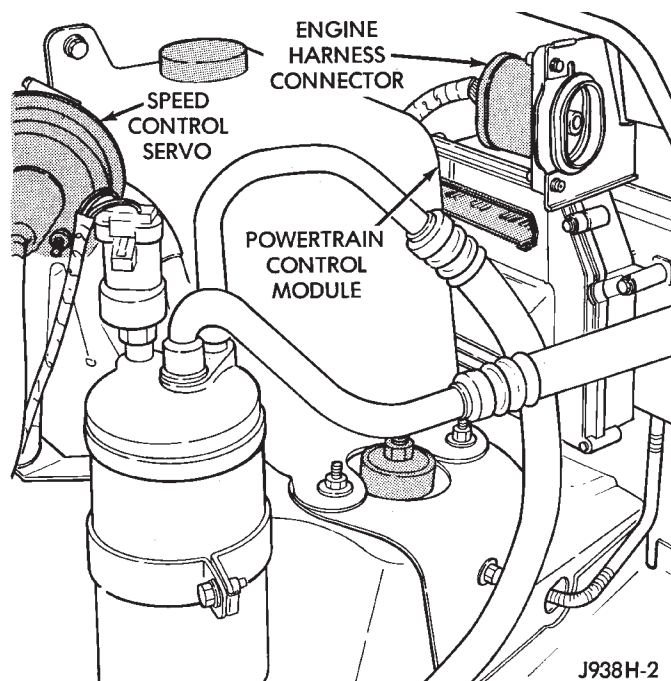
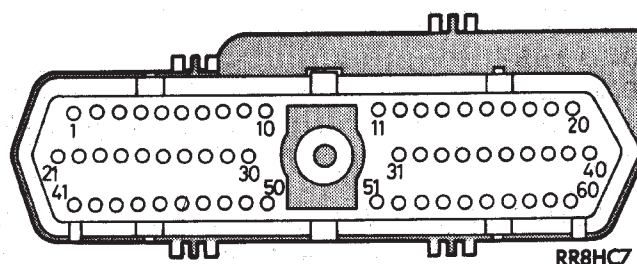

Fig. 3 Powertrain Control Module and Connector Location
Fig. 4 Powertrain Control Module 60-Way Connector Shown from Terminal End
(1) Unplug 60-way connector from the Powertrain Control Module, located on the passenger side dash panel in the engine compartment (Fig. 3).
(2) Connect negative lead of voltmeter to a good body ground near the module.
(3) For the following tests, the ignition switch must be in the ON position. Refer to Fig. 4 for control module terminal locations. Touch the positive lead of the voltmeter to the terminal in cavity number 33. With the speed control switch in the OFF position, the voltmeter should read 0 volts. With the speed control switch in the ON position, the voltmeter should read battery voltage. If not, repair the main harness as necessary.
(4) Touch the positive lead of the voltmeter to the terminal in cavity number 53. As in step (3), the voltmeter should read 0 volts with the switch in the OFF position and battery voltage with the switch in the ON position.